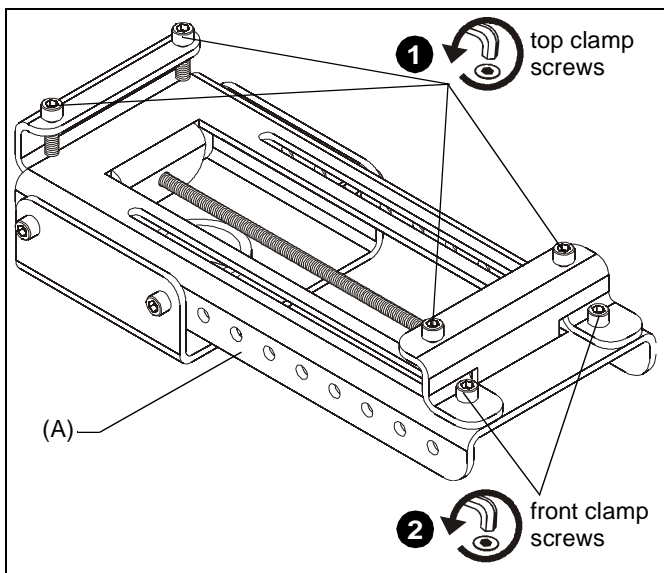

Figure 2
1. Using 1/4" hex key (D), loosen four top clamp screws to allow clamp (A) to slip over I-Beam flanges. (See Figure 2)
2. Using 1/4" hex key (D), loosen two front clamp screws as required to allow sliding bracket to freely move on upper surface of clamp (A). (See Figure 2)
4. Position clamp in desired location and secure front clamp screws using 1/4" hex key (D). (See Figure 2)